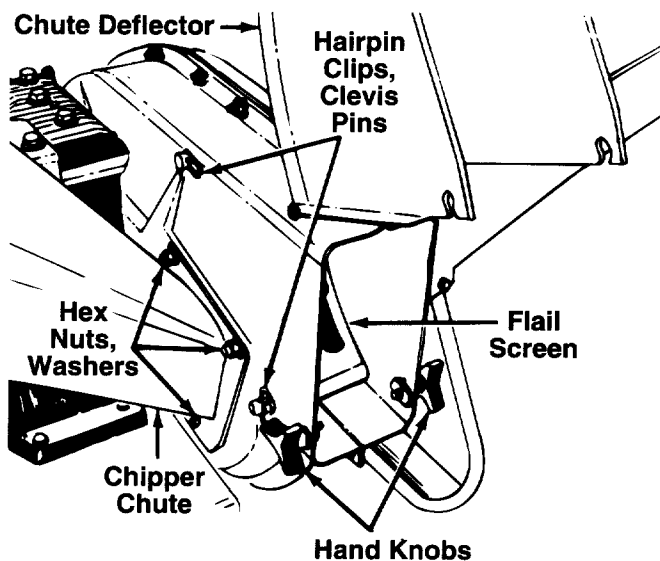

FIGURE 10.
3. Remove two hairpin clips from the clevis pins which extend through the housing. Remove the clevis pins. Lift the flail screen from inside the housing. See figure 10.
NOTE: Be certain to reassemble the flail screen with the curved side down as shown in figure 10.